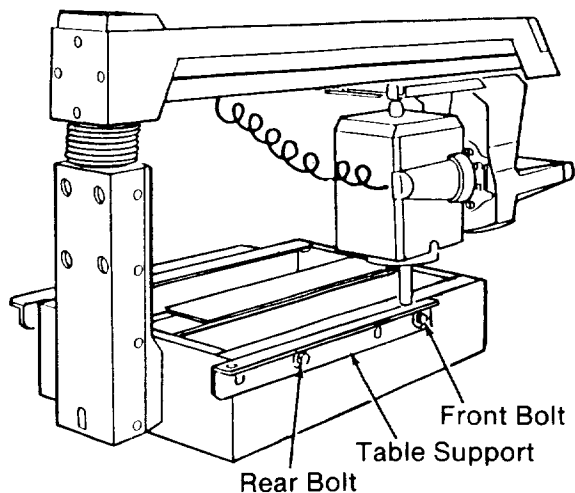

Fig. 57
13. Move the *arm* and *motor* until the *arbor shaft* is over the front bolt on the left *table support*. Do not change the elevation of the *arm* as you move from point to point. (Figure 57)